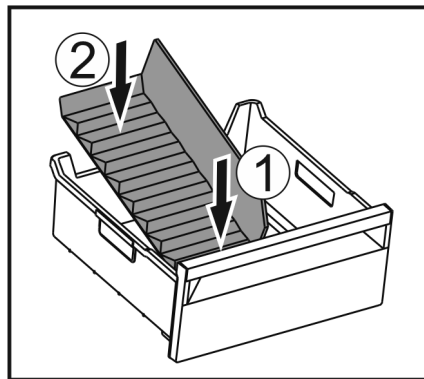

Fig. 55
- ▶ Insert the front part of the ice compartment divider. Fig. 55 (1)
- ▶ Lower the rear part of the ice compartment divider to the drawer bottom. Fig. 55 (2)